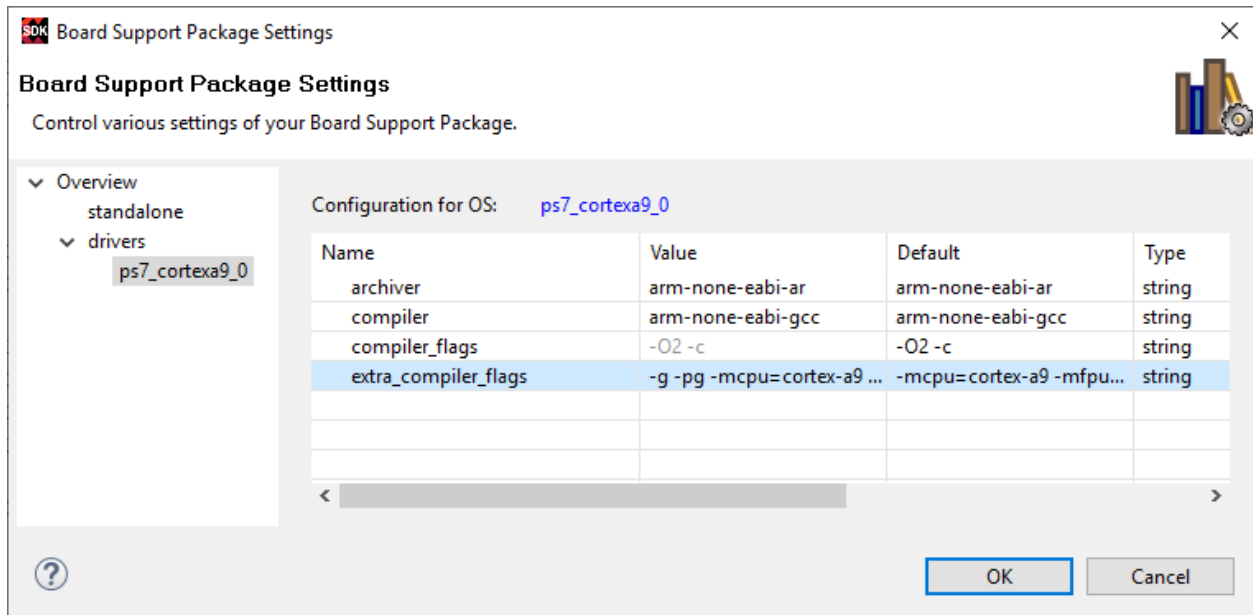

Figure 39: Adding compiler flags for profiler.
6. Select **Overview** → **drivers** → **ps7_cortexa9** and in the `extra_compiler_flags` field, add `-g -pg` to the front of the other flags, as in Figure 39. The complete field should read: